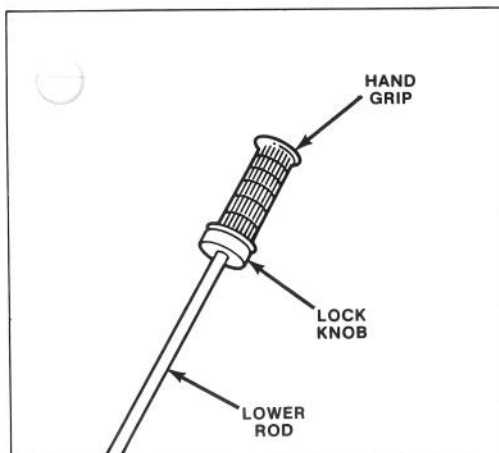

Figure 2
1. Screw lock knob and hand grip onto lower rod until they cannot be turned any further (Fig. 2).